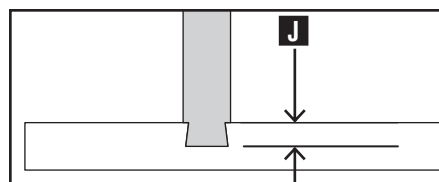

Fig. H8
**NOTE:** Do not select a router bit depth (J) Fig. H8 that is greater than half your dado board thickness.